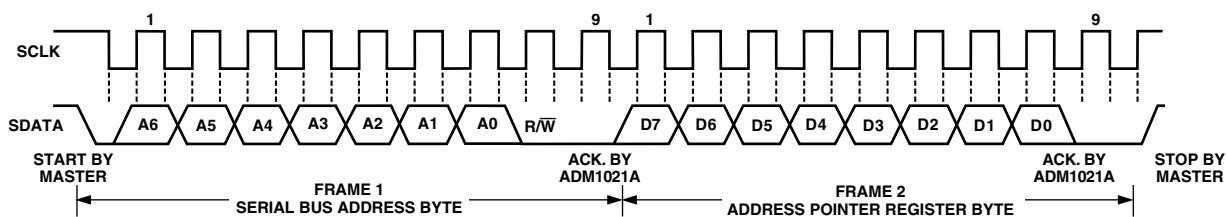

Figure 4. Writing to the Address Pointer Register Only
1. If the ADM1021A's Address Pointer Register value is unknown or not the desired value, it is first necessary to set it to the correct value before data can be read from the desired data register. This is done by performing a write to the ADM1021A as before, but only the data byte containing the register read address is sent, as data is not to be written to the register. This is shown in Figure 4.
2. If the Address Pointer Register is known to be already at the desired address, data can be read from the corresponding data register without first writing to the Address Pointer Register, so Figure 4 can be omitted.